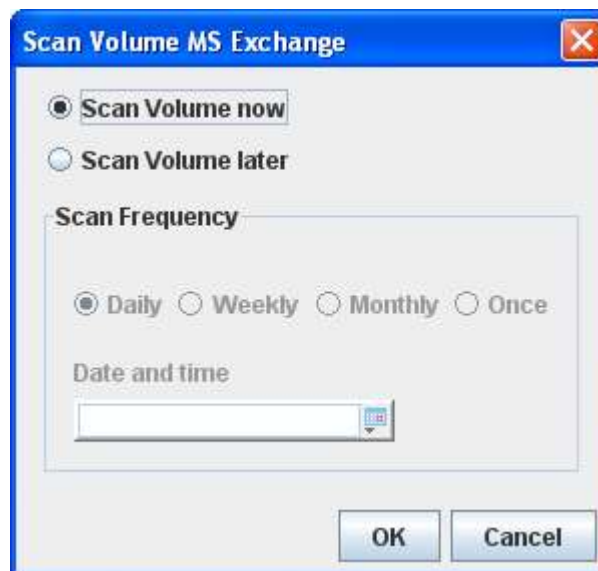

Figure 4-22. Scan Volume Dialog Box
- Press the right mouse button and click **Scan Volume** from the shortcut menu.*Any of these steps displays the Scan Volume dialog box (see Figure 4-22).*